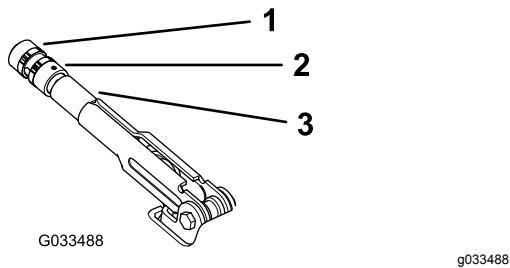

Figure 52
2. Loosen the set screw securing the knob to the parking-brake lever (Figure 52).
3. Rotate the knob (Figure 52) until a force of 20 to 22 kg (45 to 50 lb) is required to actuate the lever.
4. Tighten the set screw when finished (Figure 52).